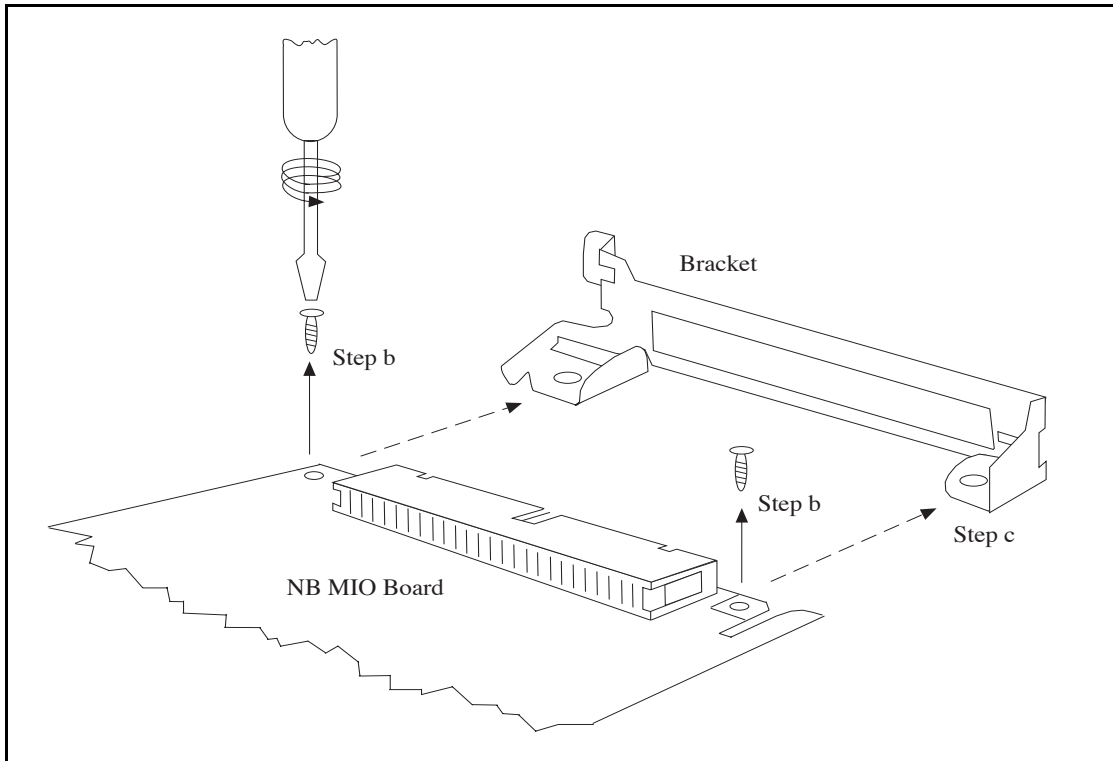
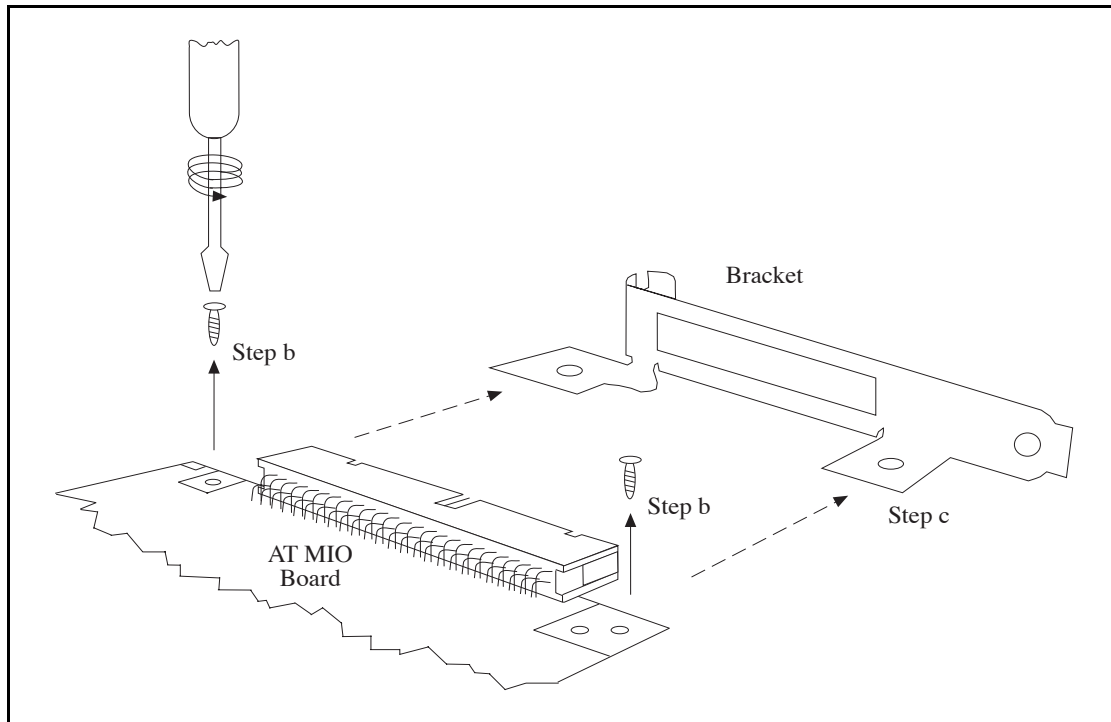

Figure 2. Removing the Bracket from an NB Board
Figure 3. Removing the Bracket from an AT Board
- c. Remove the bracket from the board. See Figure 2 for NB board bracket removal or Figure 3 for AT board bracket removal.